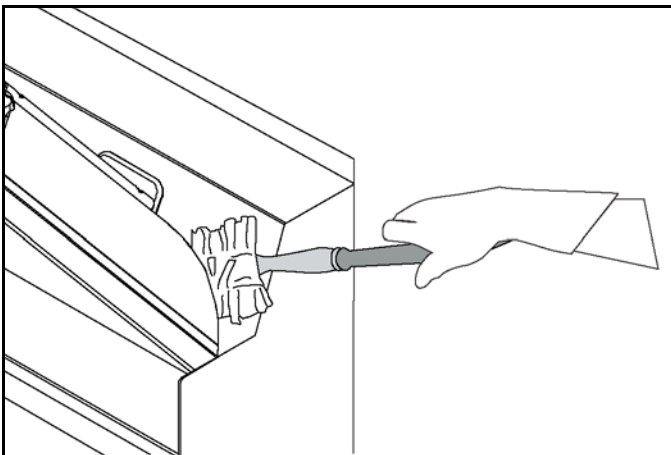

Figure-128
36. With the grill pulled out, wipe down the front and back areas of the grill with the universal pad. See Figure-128.